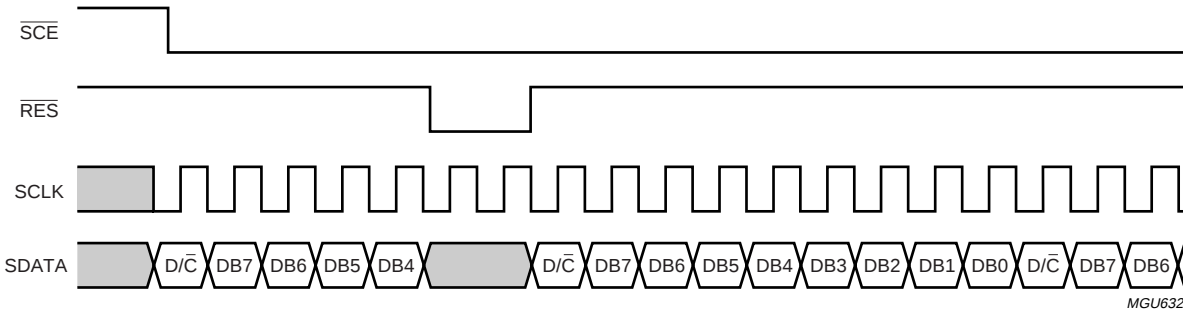

Fig.23 Serial interface (3-line), write mode - interrupted by reset ($\overline{RES}$).
- A reset pulse with $\overline{RES}$ interrupts the transmission and the data being written into the RAM may be corrupted. The registers are cleared. If $\overline{SCE}$ is LOW after the rising edge of $\overline{RES}$, the serial interface is ready to receive the $\overline{D/C}$ -bit of a command/data byte (see Fig.23).